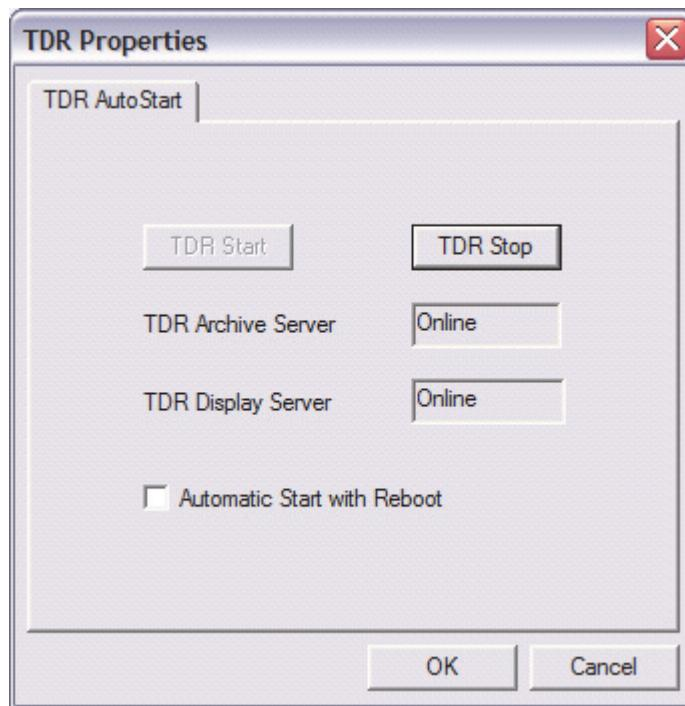

Figure 2-20. TDR Auto Start Tab in Properties Dialog Box
1. From the Windows **Start** menu select **Control Panel > Foxboro TDR**. The TDR Properties dialog box appears (Figure 2-20).